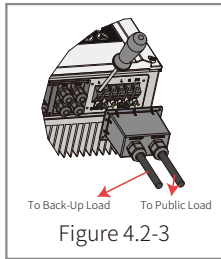

Figure 4.2-3
- **On-Grid & Back-Up Connection:** Confirm on-grid connected to power grid and back-up connected to loads: polarities (L/N are in sequence) are not reversed, refer to figure 4.2-3.